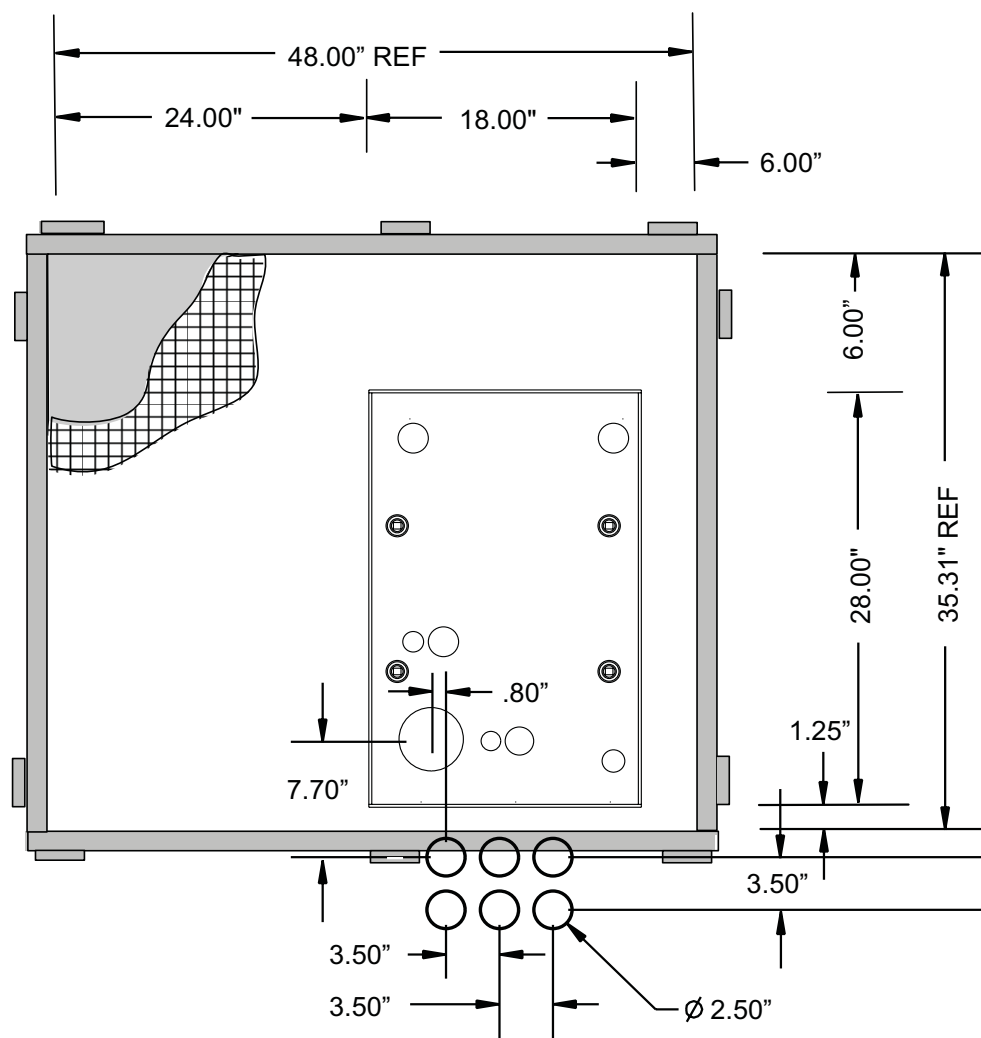

Fig. 10 : Foundation Pad Design with Customer Conduit Location
5.1.1 The MESA[®] SOLE cabinet can be installed on a concrete foundation pad, which is either cast-in-place or precast. Fig. 10 shows the recommended position of the optional cabinet pad template on a concrete pad.
Refer to Fig. 10 for the arrangement and size of the reinforcing mesh and the template in the form prior to pouring concrete.
The arrangement of the reinforcing mesh and the template in the form prior to pouring concrete is shown in Fig. 10.